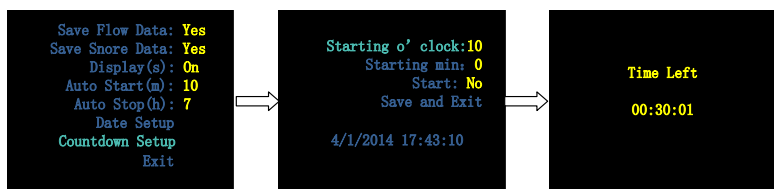

Figure 1-13 “Countdown Setup” interface
- **Countdown Setup**, allowing users to set the device to start recording at a certain time according to their needs. The maximum countdown time is 14 hours. When the countdown reaches 0:00:00, the device will enter the Wearing Alert interface. If all leads are attached properly, the device will start recording automatically. Press and hold the **On-Off / OK** Button ①/☑ and the **Shift** Button ☺ until the user exits the “Time Left” interface, as shown in Figure 1-13.